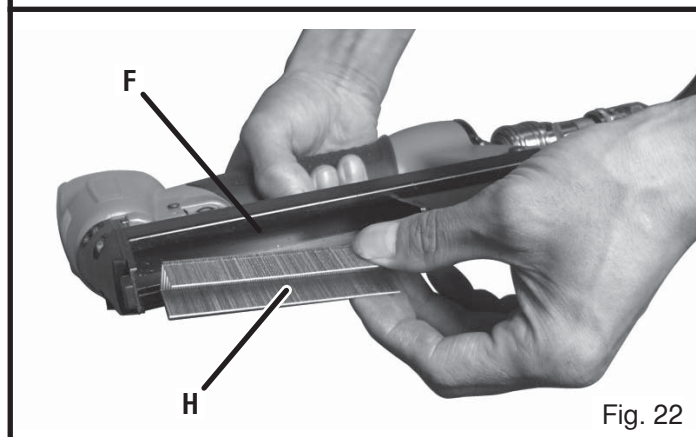
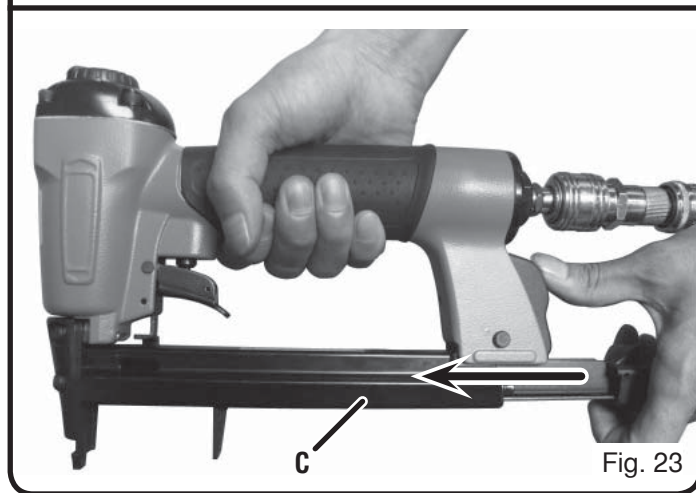
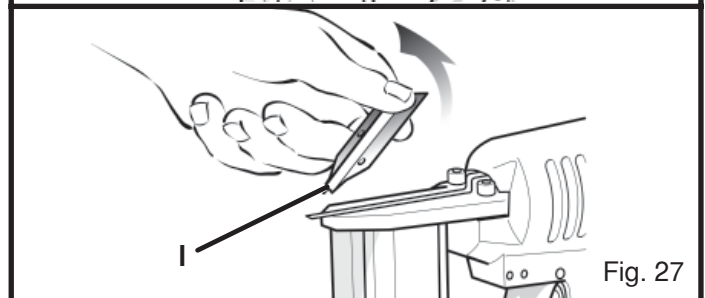

Fig. 22
Fig. 23
Fig. 27
- 3) See tool specification to determine appropriate nail sizes. Insert appropriate nail strips (H), with the nail tips contacting the wear rail (F) (Fig. 22).
- 4) Push the nail strip (H) against the nose.
- 5) Push magazine fully closed (Fig. 23). Click lever (D) will maintain fully closed position.
- 6) Remove cover (I) of the stapler (Fig. 27).
- 8) Replace cover (I) of the stapler.
- 9) Using a suitable Allen wrench (G), refasten screws (M) - (N) and (O) to cover (I).
- 10) Slide the magazine (C) upwards, pressing lever (D) at the same time (Fig. 23).
- 11) Lock the magazine (C), releasing lever (D). Make sure that the cartridge is firmly secured (Fig. 23).